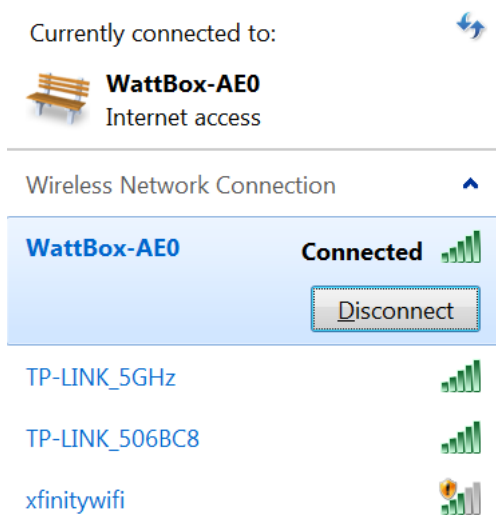

Fig. 7: WattBox access point WiFi network
- 2) Please connect to the aforementioned WiFi network named **WattBox-XXX** on any personal computer or smartphone. Note that the name always starts with **WattBox**, but the last three characters vary from device to device (Fig. 7).